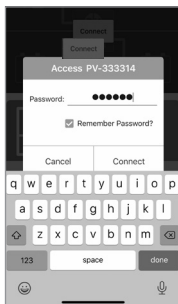

Fig 1
3. You will now be asked to select the controller from a list of Bluetooth devices around you. Please select 'PV-xxxxxx' (Fig 1).